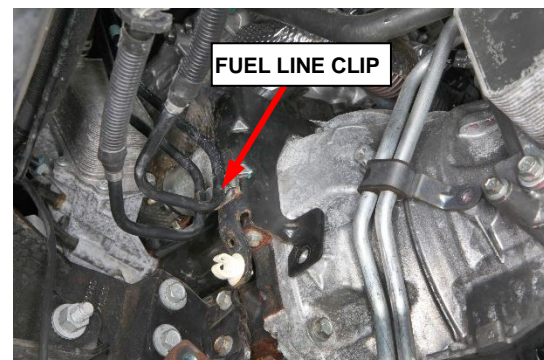

Figure 20 – Upper Bracket at Transmission
40. Release the fuel lines from the clip on the upper bracket (Figure 20).
23. Install the fuel lines to the clip on the upper bracket (Figure 20).